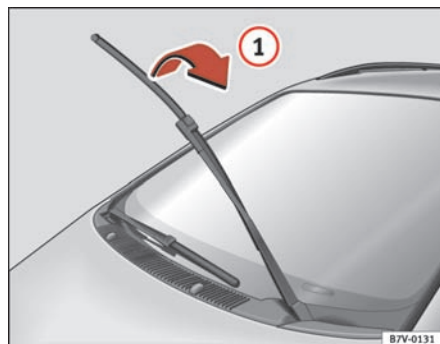
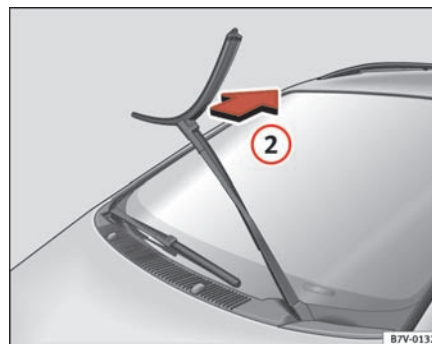

Fig. 146 Windscreen wipers raised
Fig. 147 Removing front wipers
- Turn the wiper blade as shown by arrow ⇒ fig. 146 ① as far as it will go and then pull it off as shown by arrow ⇒ fig. 147 ②.
- Push a new wiper blade **of the same length and version** onto the wiper arm and turn the wiper blade to the stop against the direction shown by arrow ①.